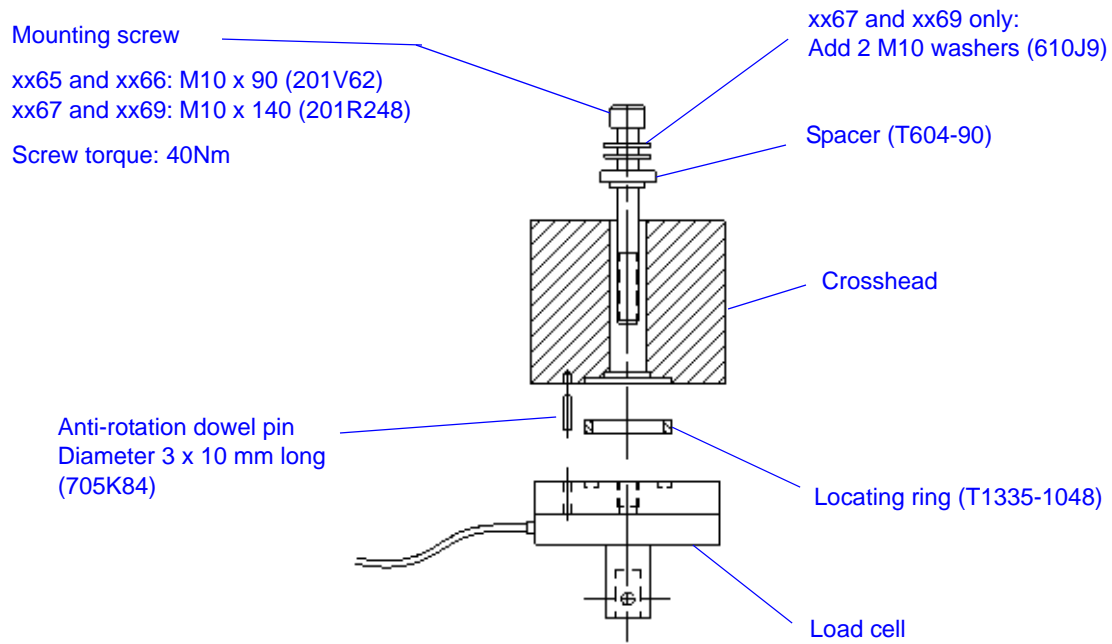
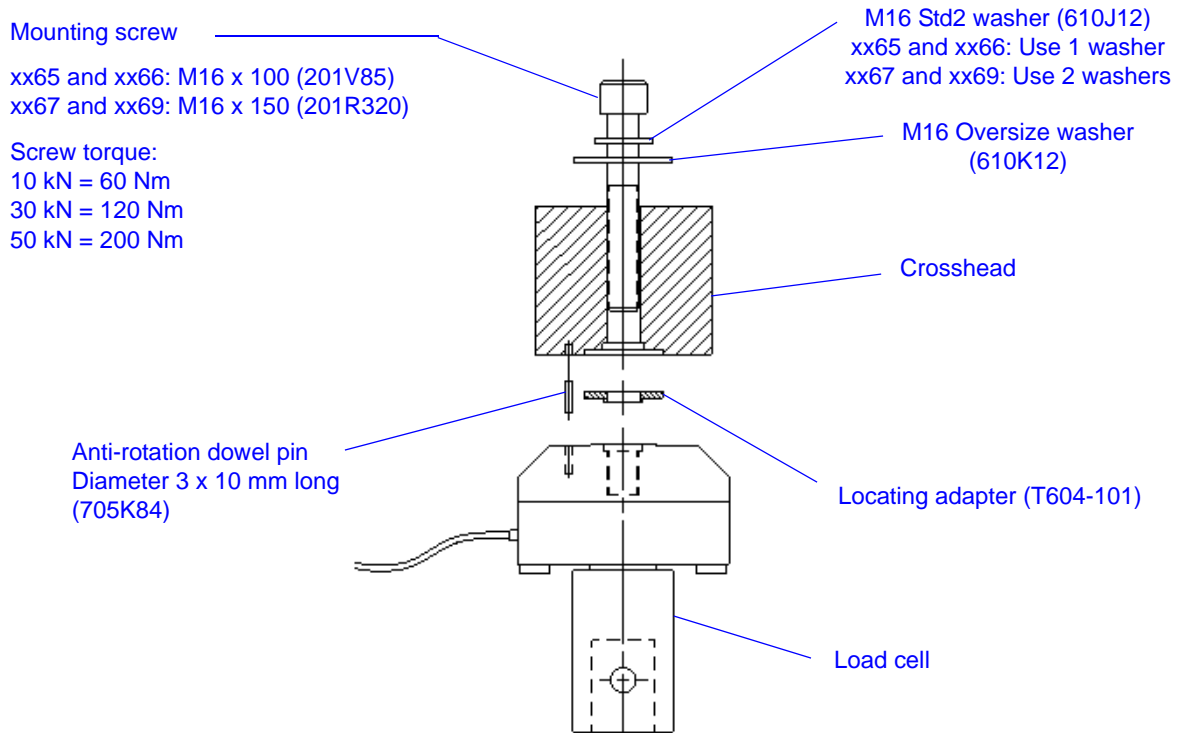

Figure 2-4. Installing 2530 Load Cells - Capacity up to 5 kN
Figure 2-5. Installing 2530 Load Cells - Capacity 10 kN and Greater
Refer to Figure 2-4 on page 2-14 Figure 2-5 on page 2-14 and perform the following procedure.
3. Connect the mounting screw, washers (if applicable), and spacer (if applicable) as shown in either Figure 2-4 on page 2-14 or Figure 2-5 on page 2-14.
See Figure 2-4 for installing load cells with a capacity up to 5 kN, and Figure 2-5 for installing load cells with a capacity of 10kN or greater. Refer to Table 2-7 on page 2-15 for the appropriate mounting screws.